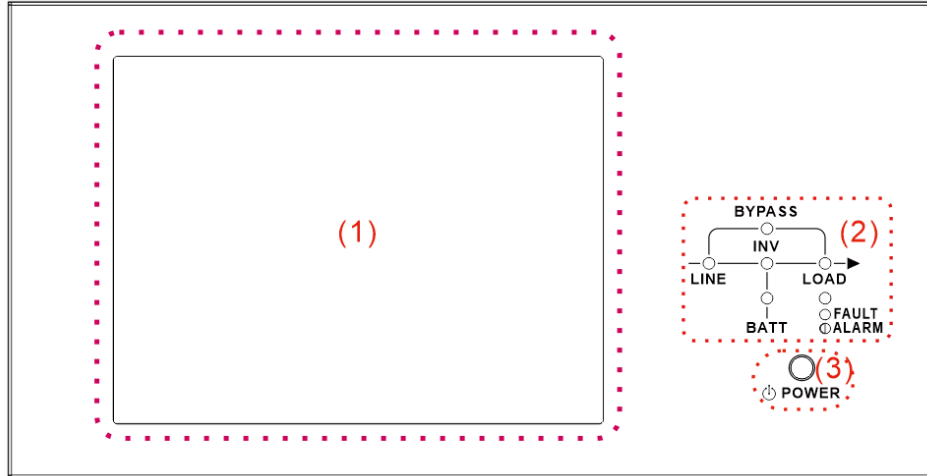

Figure 4-1 Control panel
This control panel and display description are located on the front door of the UPS cabinet. It is the USER control, monitoring of all measured parameters, UPS and battery status and alarms. The control panel is divided into four functional areas: (1) LCD display, (2) LED indications, (3) Control keys, (4) Audio Alarm, as shown in Figure 4-1.